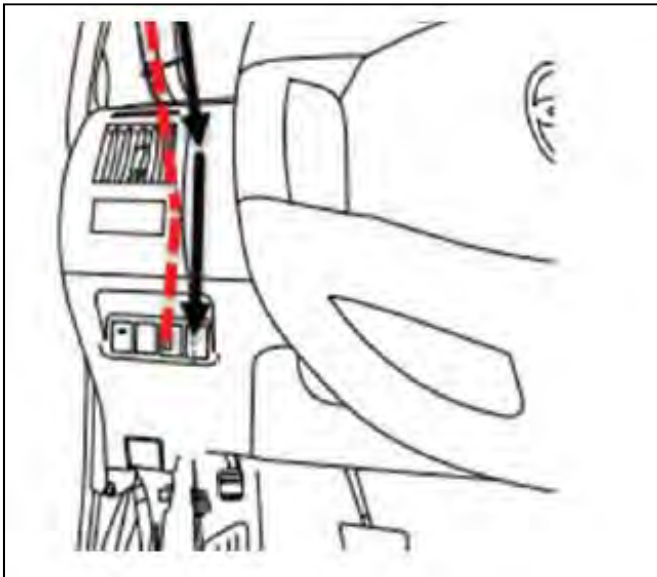

Figure 13
13. Route the mirror harness behind the dash to the outside mirror remote switch. See figure 14. See figure 13.